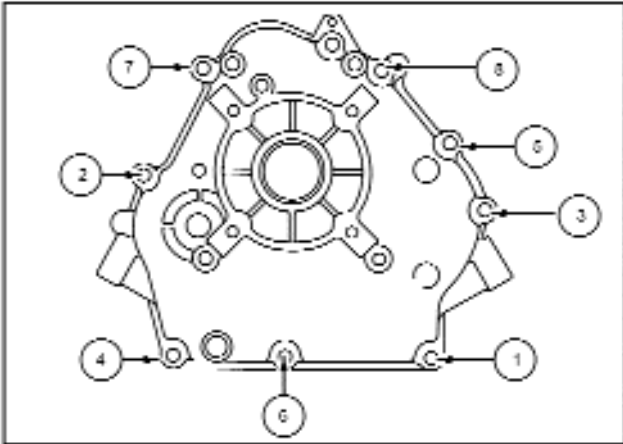
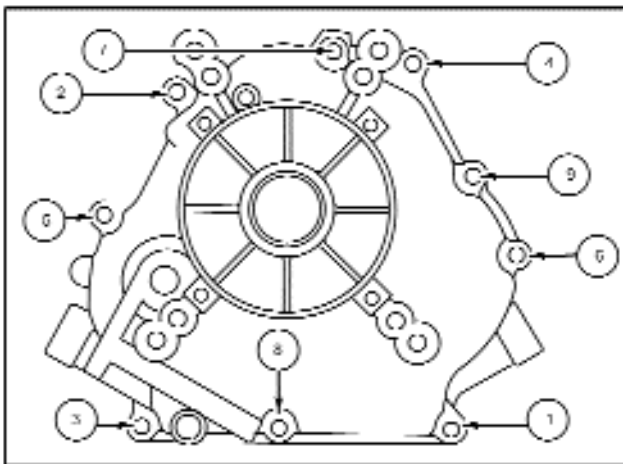

Figure 127 - 9 H.P. Engine, 175 in. lbs. (19.8 Nm)
Figure 128 - 13 H.P. Engine, 175 in. lbs. (19.8 Nm)
2. Install crankcase cover. DO NOT FORCE. Gently, seat on to crankcase gasket, taping with mallet at four (4) corners, only if necessary.
3. Install screws and torque in sequence shown: Figure 127, 9 H.P. Engines and Figure 128 13 H.P. Engines